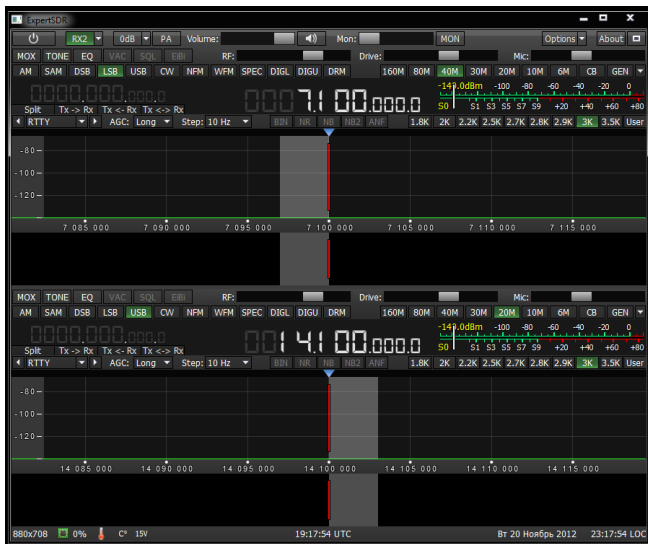

Figure 8.16 – Vertical arrangement of receivers' windows
- In Figure 8.16 vertical arrangement of one receiver above the other is showed. Such arrangement is convenient when an old big monitor with 4:3 side correlation is used or a modern monitor is put vertically deliberately.